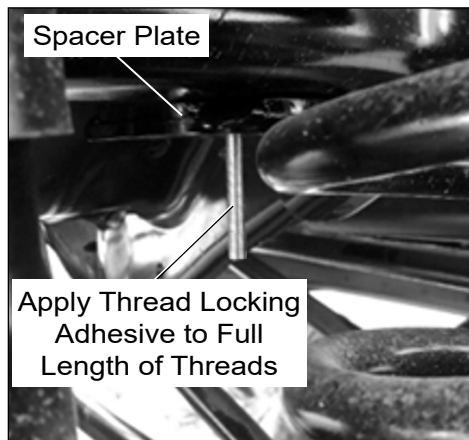

Figure 5 – Preparing Timbren Spring Mounting Fastener
- Apply Loctite 262 threadlocker in a continuous strip from top to bottom on the threads of the Timbren spring mounting fastener below the spacer plate (refer to Figure 5).